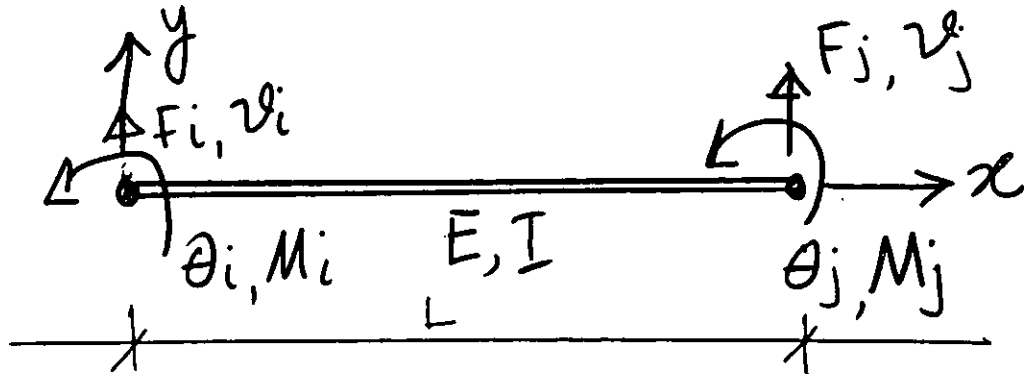

Figure 3
- a. Introduce reasonable shape functions for a two noded beam element (Figure 3) and derive the element stiffness matrix.
Figure 3 for question 4(b)